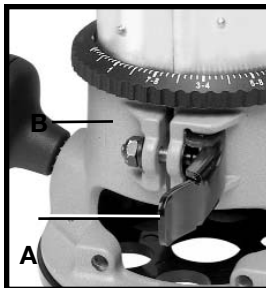
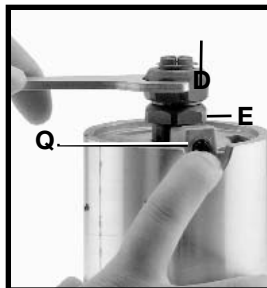

Fig. 1
Fig. 2
- Open the clamp (A) Fig. 1.
- While holding the base, turn the power unit COUNTER-CLOCKWISE until the lower pin (B) in the motor housing is disengaged from the groove in the base.
- Press the spindle lock (Q) Fig. 2 while turning the chuck (E) Fig. 2 until it locks into place.
- Firmly tighten the collet nut (D) Fig. 2 with the provided wrench.